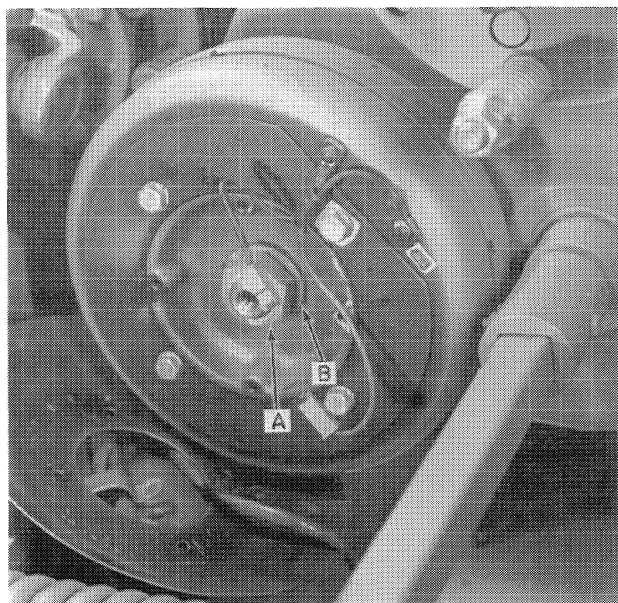

FIGURE 2-9
2. Unlock the nut, A, Figure 2-9, by bending up the tang washer, B.